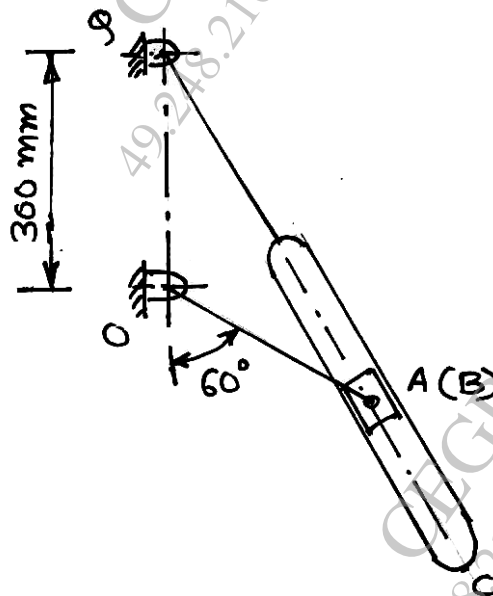

Fig. 4
8. (a) In the Fig. 4, show the Coriolis component of acceleration of link with direction for the following *two* cases :